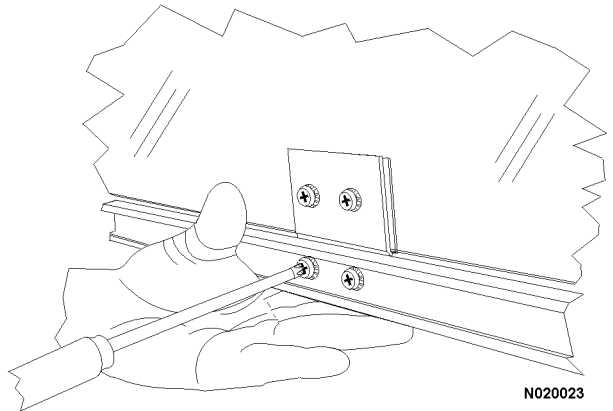

FIGURE 2-8.
- h. Remove two screws (Figure 2-8) holding the roller track to the bottom of the door glass.
6. Remove two screws (Figure 2-8) holding the roller track to the bottom of the door glass.
20. Lift the window glass in the frame and install the window regulator roller track onto the bracket installed in Step 20. See Figure 2-8.